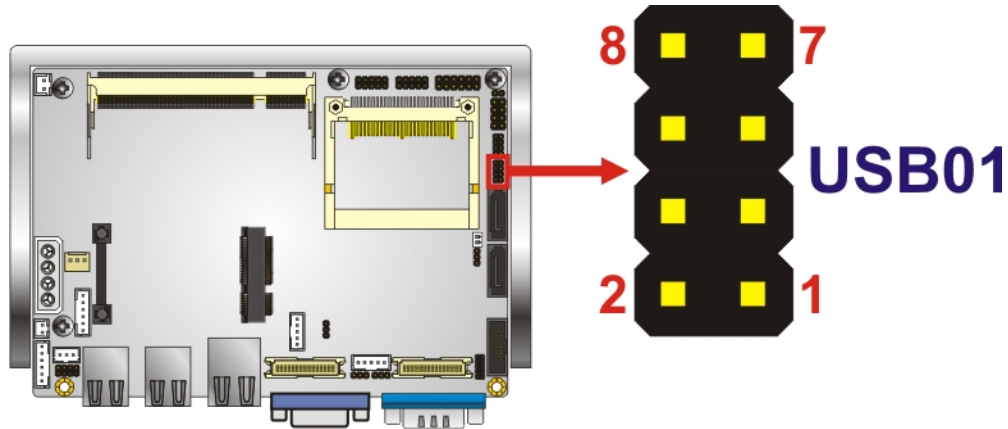

Figure 3-21: USB Connector Pinout Locations
- CN Location:** See Figure 3-21